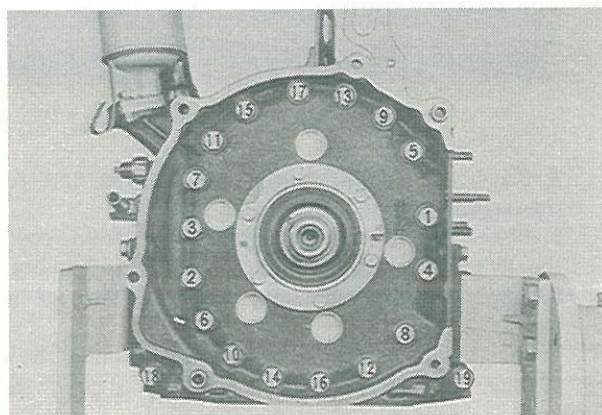

Fig. 1-93 Tightening order
2. Turn the engine on the work stand so that the top of the engine is up, and tighten the bolts gradually in the order shown in Fig. 1-93. The specified torque is 3.0 m-kg (22 ft-lb). Do not tighten the tension bolts at one time.